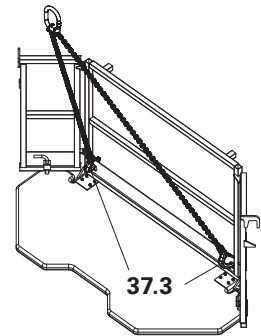

Fig. B2.19
2. Attach external corner platform to crane (37.3) and then position. (Fig. B2.19)